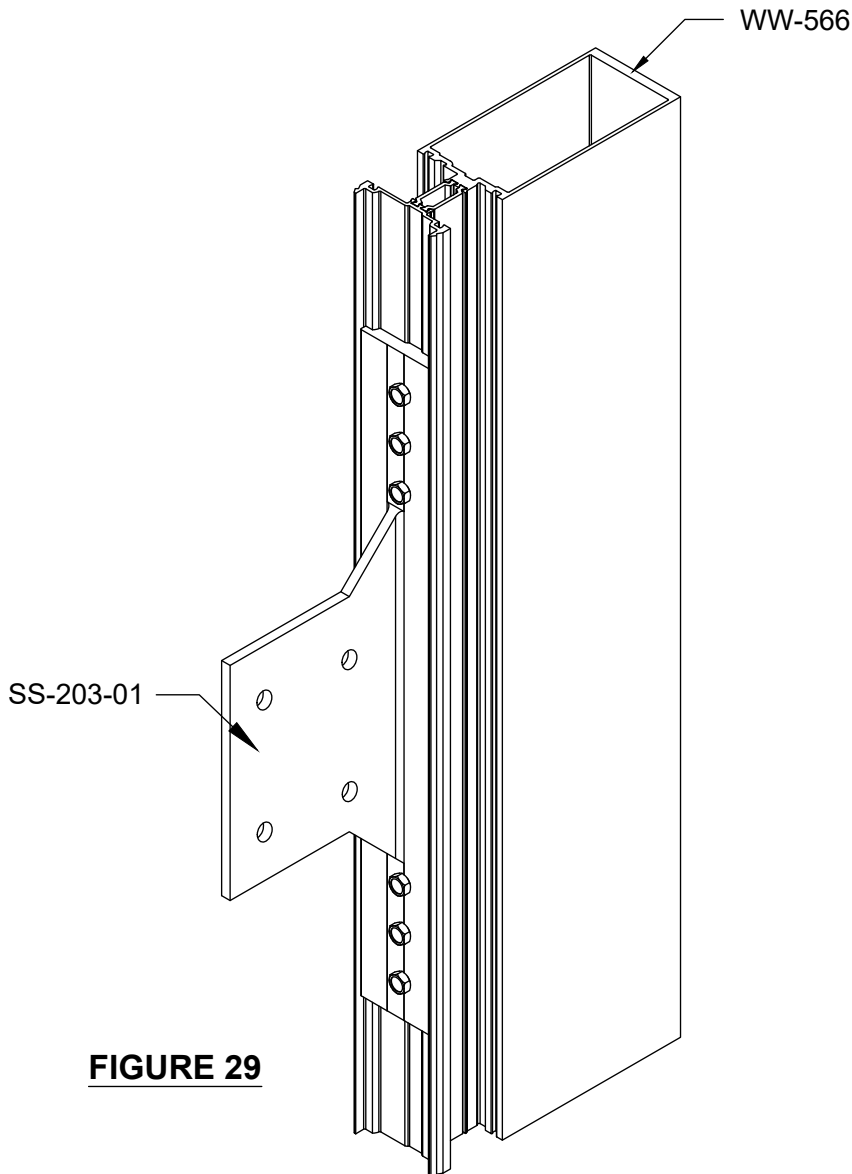

FIGURE 29
- 1) Cap seal the fasteners at sunshade anchor. See **FIGURE 29**